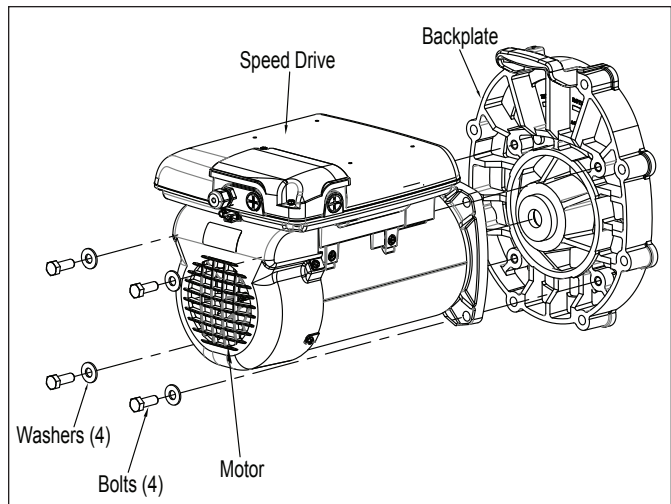

Figure 18. Backplate Assembly, Regal Beloit Motor
- Note the alignment of the backplate to the motor, as shown in Figure 18. Place the backplate motor assembly o-ring side down, unscrew the four 9/16" screws, and remove the motor.
- Replace the four (4) bolts and washers holding the backplate to the motor.